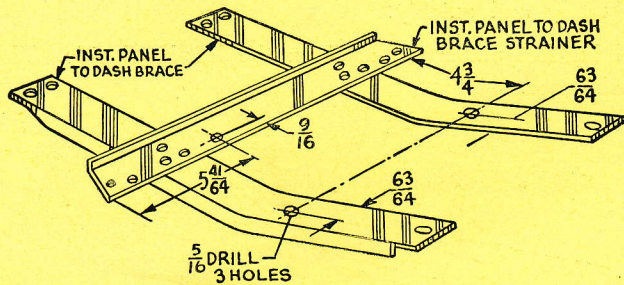

FIGURE 2
1. Refer to Figure 2 which shows the location of the holes in the reinforcing brace on which the speaker is to be mounted.